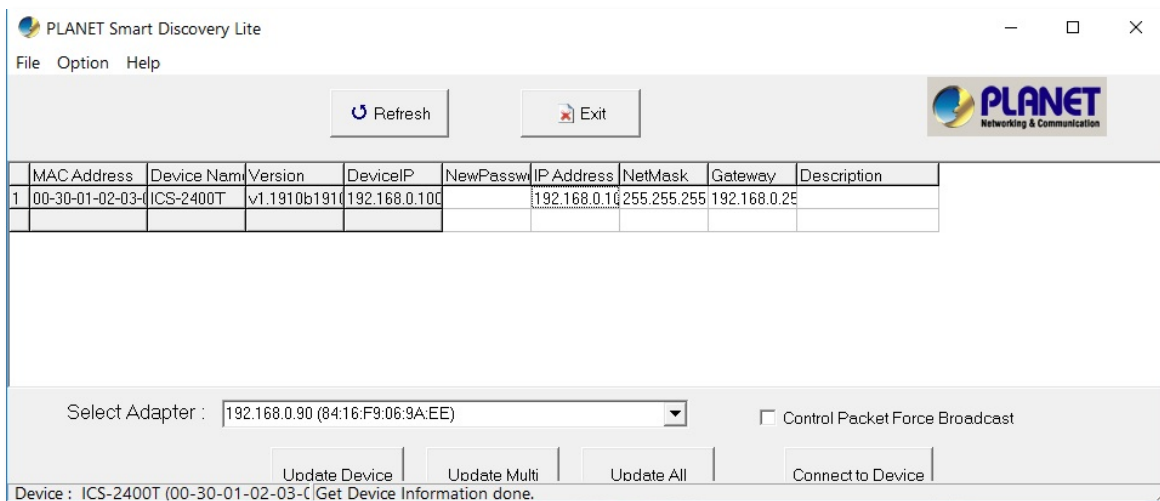

Figure 3-4-2: Planet Smart Discovery Utility Screen
3. Press the “**Refresh**” button for the currently connected devices in the discovery list as shown in Figure 3-4-2.:
4. Press the **“Connect to Device”** button and the Web login screen appears as shown in Figure 3-4-2.